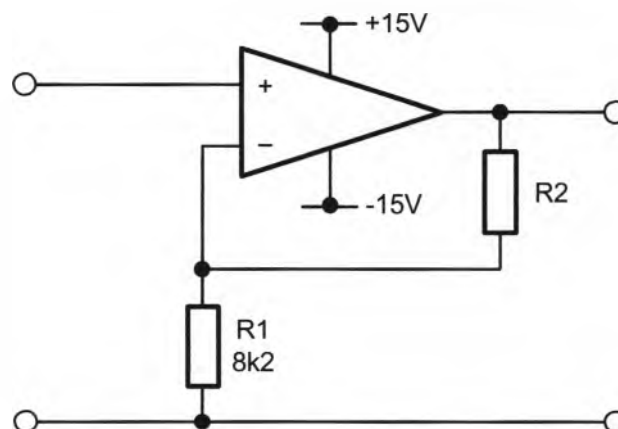

Figure 19
79. What value of resistance does $R2$ in Figure 19 below need to be for the circuit to have a gain of 80?
91. What value of resistance does R_1 in Figure 19 below need to be for the circuit to have a gain of 17?